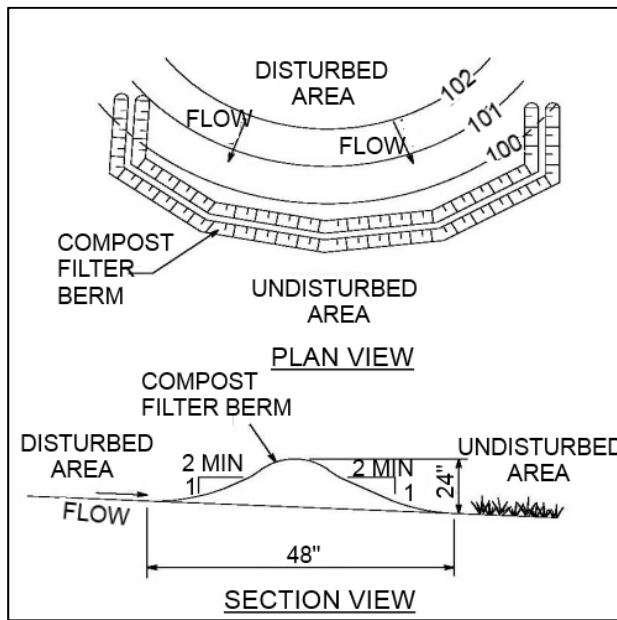

Figure 49: Compost Filter Berm
- See **Figure 49** for construction details.